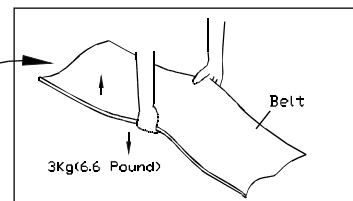

Fig.6-2
10. Do not over-tighten the belt. Over-tightening the walk belt can shorten the life of the unit. Please see Fig. 6-2 and 6-3.